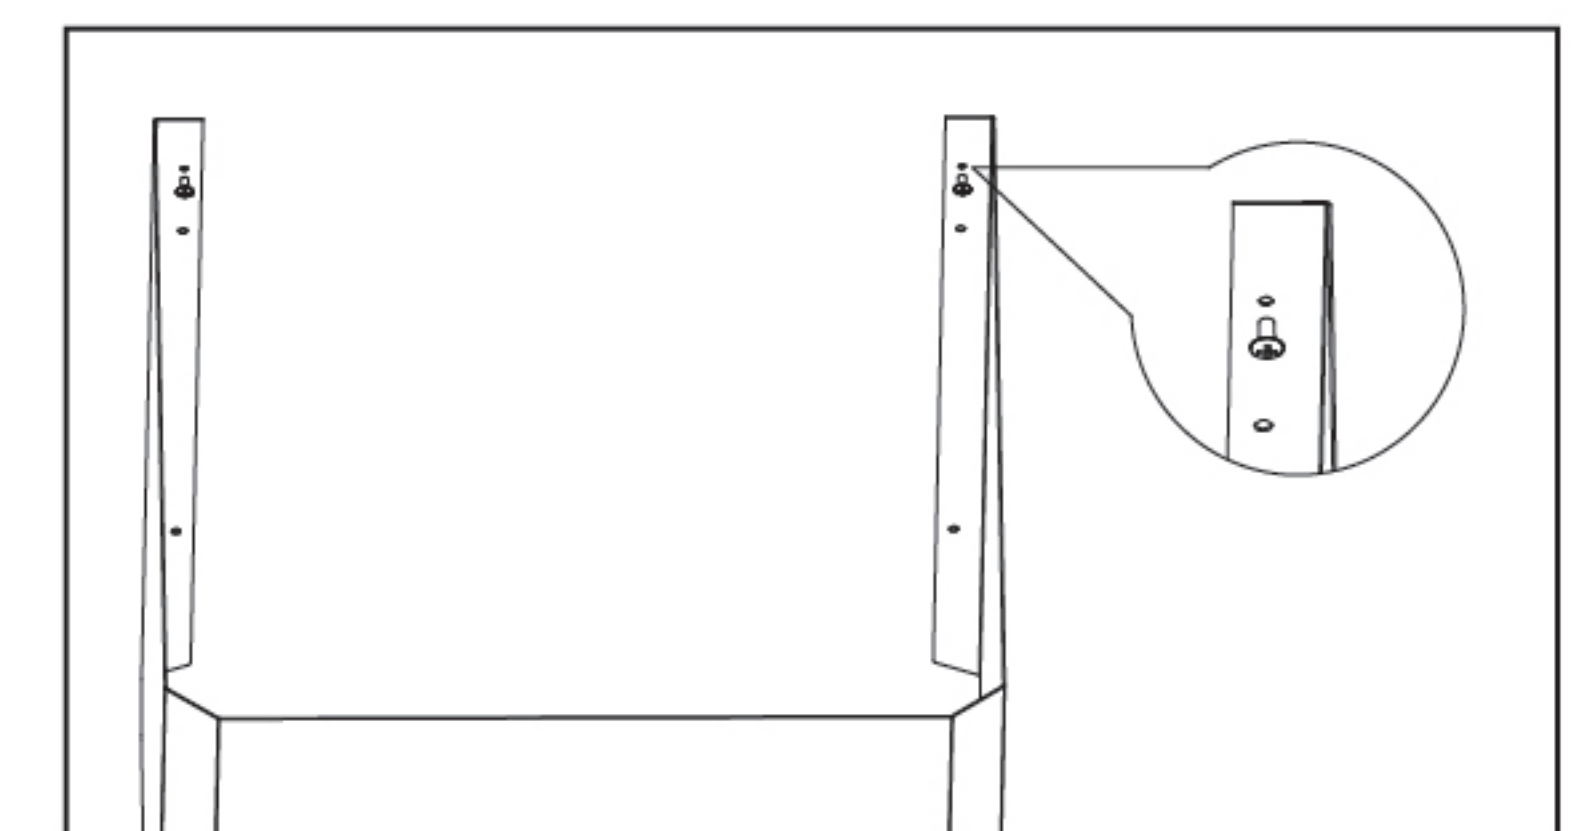

fig 8
9. Tear the films: tear off the protective films of the fan cover and the decorative cover and fix the two M4 \times 8 screws removed in step 4 to the top two screw holes of the fan cover without screwing tightly and keep a 3mm gap; Cautions: wear protective gloves; (fig8)